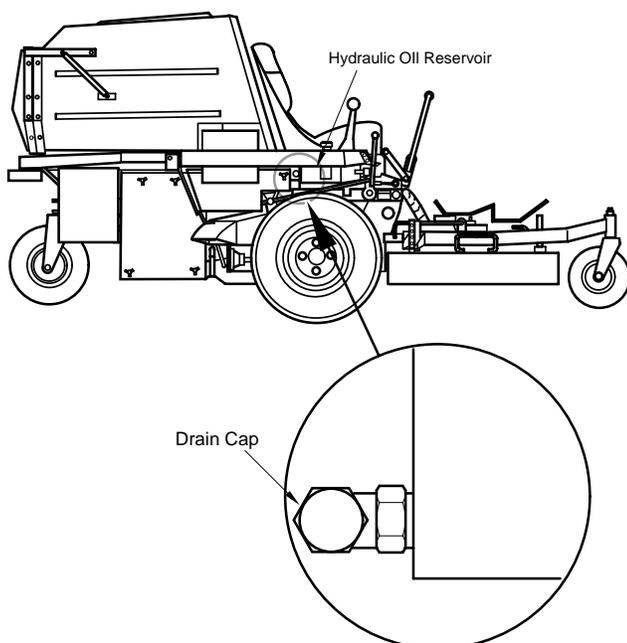

Figure 7-2 Hydraulic Oil Reservoir
2. Place a suitable container under the hydraulic oil reservoir. Remove the cap from the tee installed in the hydraulic oil reservoir. (See Figure 7-2). Allow the fluid to drain into the container and properly discard it.